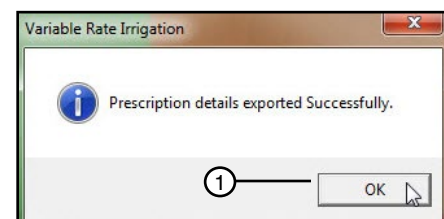

Figure 32-4 1. OK Button
4. Click **OK**. See Figure 32-4.